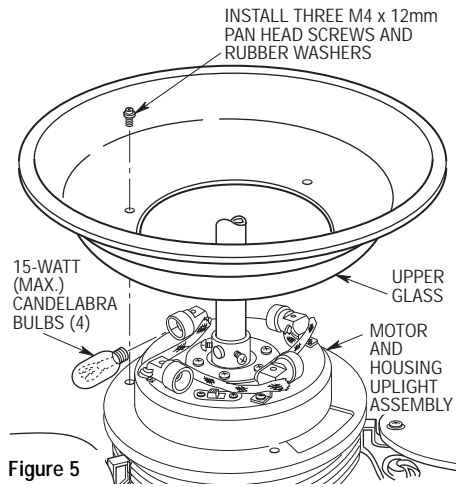

Figure 5
- 8. Place the upper glass on the motor and housing upright assembly. Line up the three holes in the upper glass with the three threaded holes in the motor and housing upright assembly (Figure 5). Install an M4 x 12mm pan head screw and rubber washer in each of the holes (Screws and rubber washers were removed in step 7).
- 9. Screw in four 15-watt (maximum) candelabra bulbs (not supplied) in the motor and housing upright assembly sockets (Figure 5).